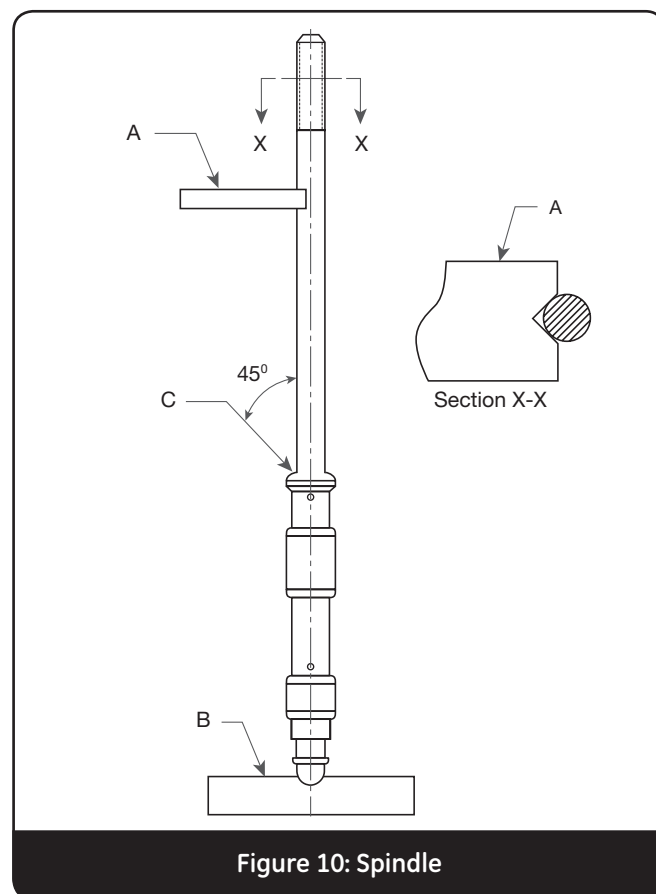

Figure 10: Spindle
It is important that the spindle be kept very straight in order to transmit the spring force to the disc without lateral binding. Overgagging is one of the common causes of bent spindles. A method to check the essential working surfaces of the spindle is illustrated in Figure 10. This may be performed either with or without the disc collar and lift stop on the spindle.
- Using Figure 10 as a reference, clamp a V block (A) made of wood, fiber or other suitable material onto the platform railing. Imbed the ball end of the spindle in a piece of soft wood (B) and place the top of the spindle below the threads, in the V block (A). Clamp a dial indicator onto the railing and locate at point (C). The total indicator reading should not exceed .007" (0.18 mm) when the spindle is rotated. If it does, the spindle must be straightened prior to reuse.